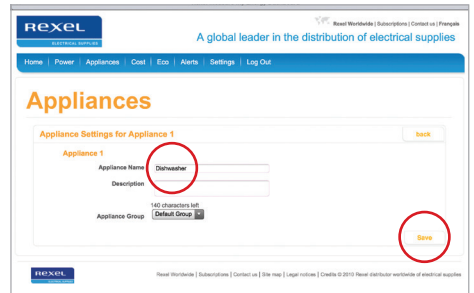

fig.13
5. Click Save. You will be taken back to the Appliance List page (fig.13).